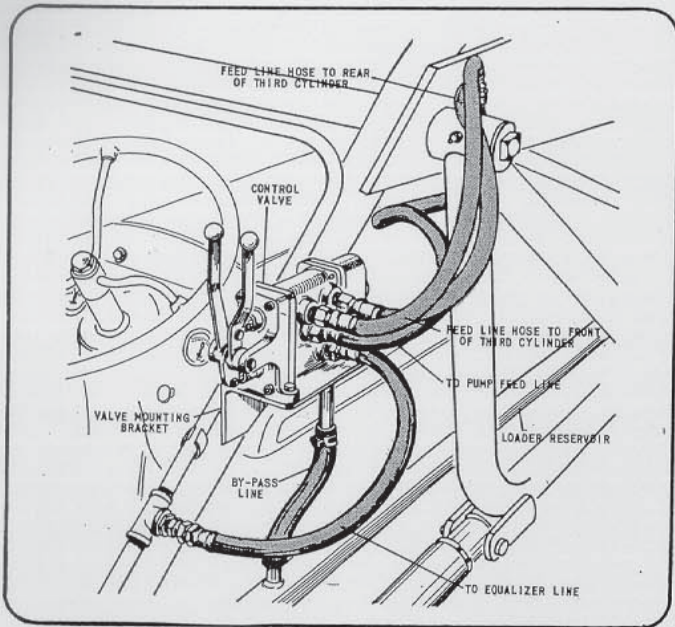

Figure 1 - Valve Installation - WM3 Only
1. Mount double acting control valve (Figure 1) to valve mounting bracket on right side of loader main frame.